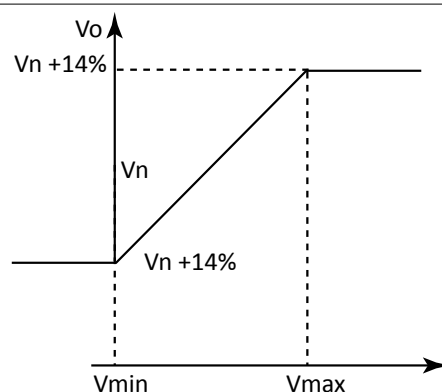

Figure 23- With saturation of the output voltage
- Maintain the minimum (or maximum) voltage value that can be reached (Figure 23-).